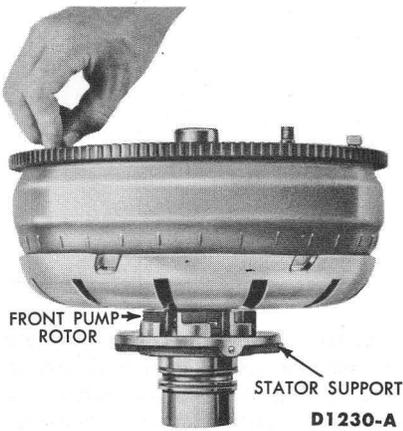

FIG. 4—Stator to Impeller Interference Check
1. Position a stator support shaft on the bench with the spline end of the stator shaft pointing up (Fig. 4).